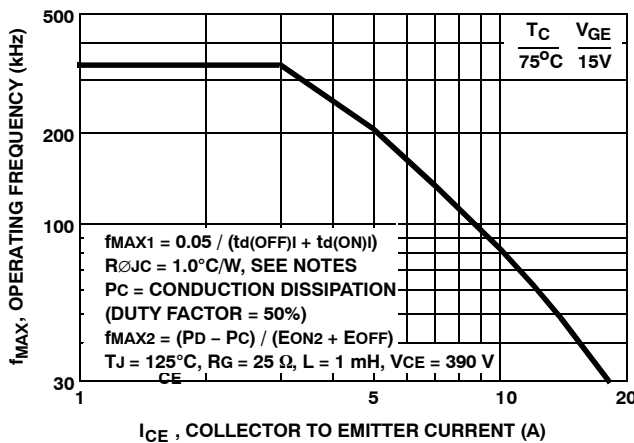
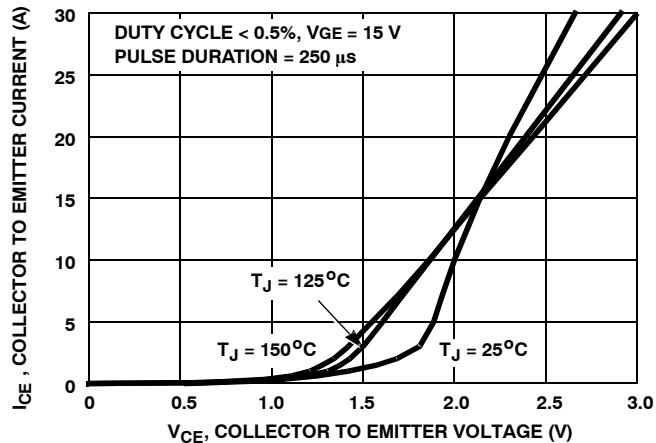

Figure 3. OPERATING FREQUENCY vs COLLECTOR TO EMITTER CURRENT
Figure 6. COLLECTOR TO EMITTER ON-STATE VOLTAGE
Operating frequency information for a typical device (Figure 3) is presented as a guide for estimating device performance for a specific application. Other typical frequency vs collector current (ICE) plots are possible using the information shown for a typical unit in Figures 6, 7, 8, 9 and 11. The operating frequency plot (Figure 3) of a typical device shows fMAX1 or fMAX2; whichever is smaller at each point. The information is based on measurements of a typical device and is bounded by the maximum rated junction temperature.
fMAX2 is defined by  $f_{MAX2} = (P_D - P_C) / (E_{OFF} + E_{ON2})$ . The allowable dissipation (PD) is defined by  $P_D = (T_{JM} - T_C) / R_{θJC}$ . The sum of device switching and conduction losses must not exceed PD. A 50% duty factor was used (Figure 3) and the conduction losses (PC) are approximated by